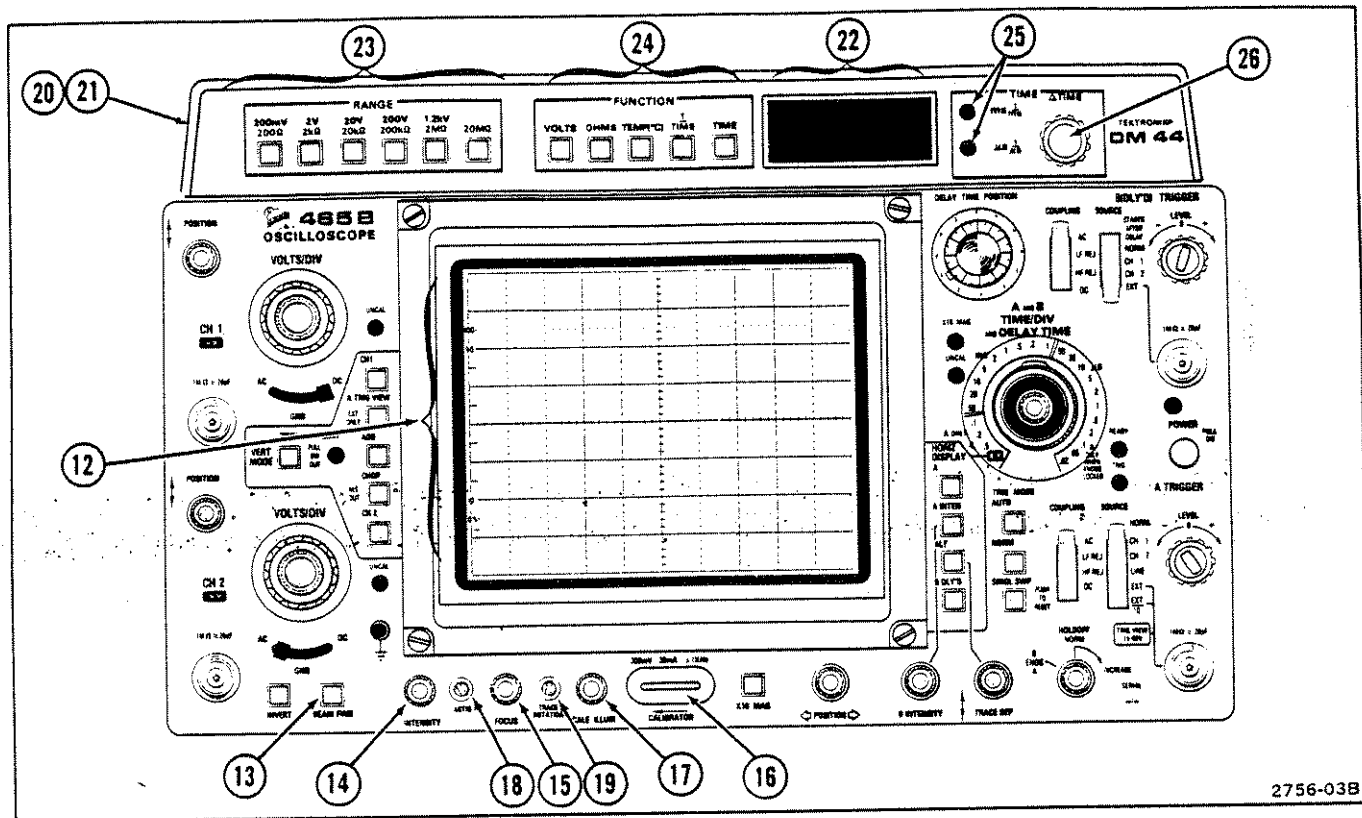

Figure 3. Display, calibrator, and DM44 controls, connectors, and indicators.
Refer to Figure 3 for location of items 12 through 26.
⑫ **Internal Graticule**—Eliminates parallax. Risetime and amplitude measurement points are indicated at the left edge of the graticule.
⑬ **BEAM FINDER Switch**—Compresses the display to within the graticule area and provides a visible viewing intensity to aid in locating off-screen displays.